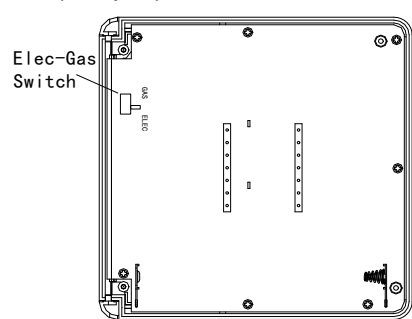

Figure 1. Electric/Gas Switch (Fan Option)
5. Fasten base loosely to wall, as shown in fig. 1, using two mounting screws. Place a level against bottom of base, adjust until level, and then tighten screws.